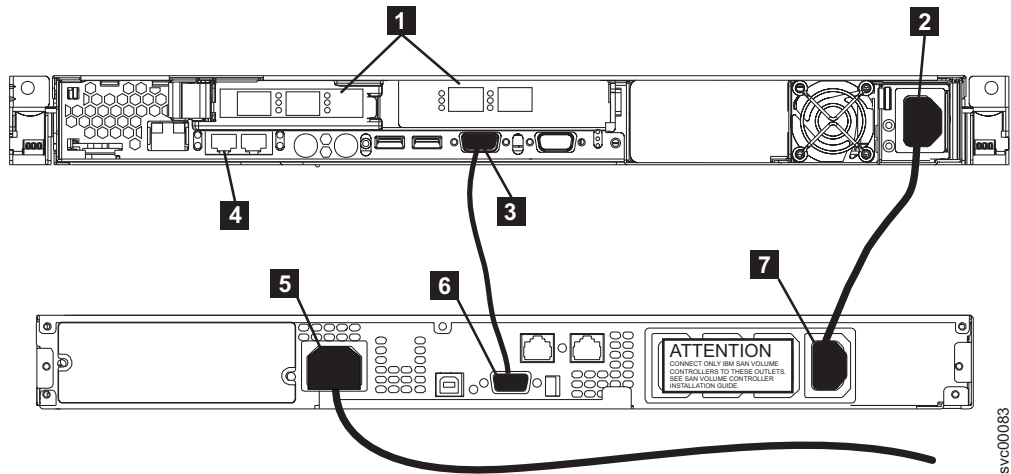

Figure 44. Connecting the SAN Volume Controller 2145-8F2 power cable to the 2145 UPS-1U
1. At the back of the SAN Volume Controller 2145-8F2 or the SAN Volume Controller 2145-8F4, plug the combined power and serial cable into the power connector **2**. See Figure 44 on page 48.